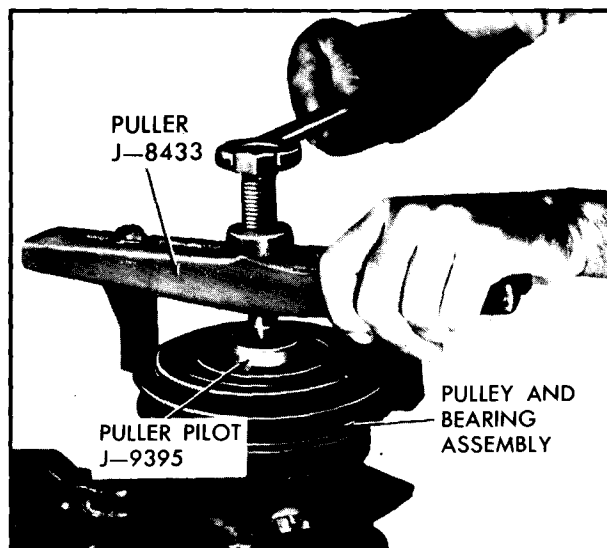
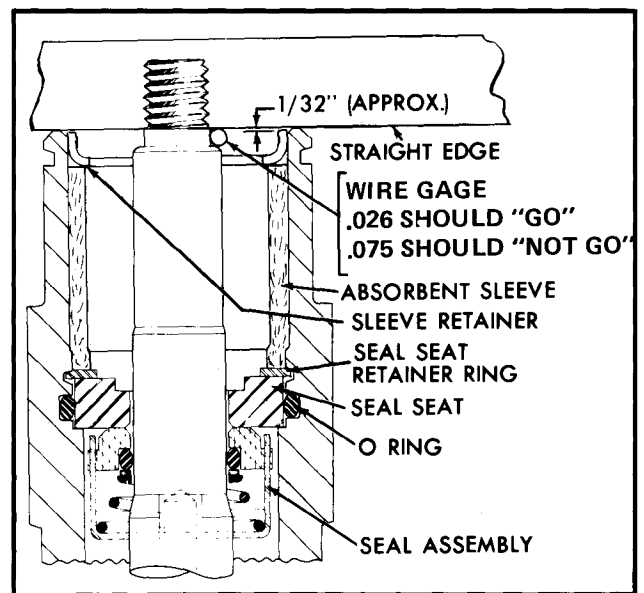

Figure 50—Removing Pulley and Bearing Assembly
Figure 60—Compressor Shaft and Seal
5. Remove Pulley and Bearing Assembly using Pulley Puller J-8433 (figure 50).
9. Position the new metal sleeve retainer so that its flange face will be against the front end of the sleeve. Pulley Puller Pilot J-9395 (See figure 50) may be used to install the retainer. Press and tap with a mallet, setting the retainer and sleeve into place (retainer should be recessed approximately 1/32" from the face of the compressor neck). (See figure 60).
To check for proper positioning of the axial plate on the shaft, remove the clutch driven plate and measure the distance between the front head extension and the flat shoulder on the shaft as shown in Figure 60. To measure this distance, use a wire gage (the clearance should be between .026" and .075"). If the shaft has been pushed back in the axial plate (measurement greater than .075"), disassemble the compressor and replace the shaft and axial plate assembly rear thrust races and thrust bearing.